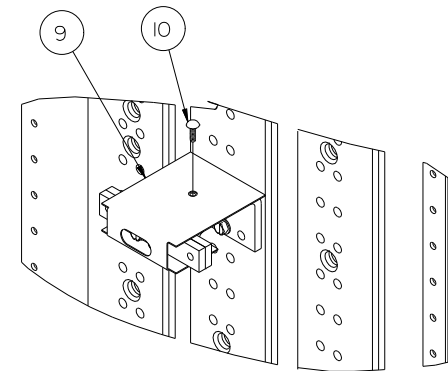

Figure 5
6. Reference fig. 5 - Attach the barrier (item 9) to B-phase strap. Insert the christmas tree rivet (item 10) through the 0.25" diameter hole in the barrier and into the 0.156" diameter hole in the B-phase strap. Push for a tight fit.